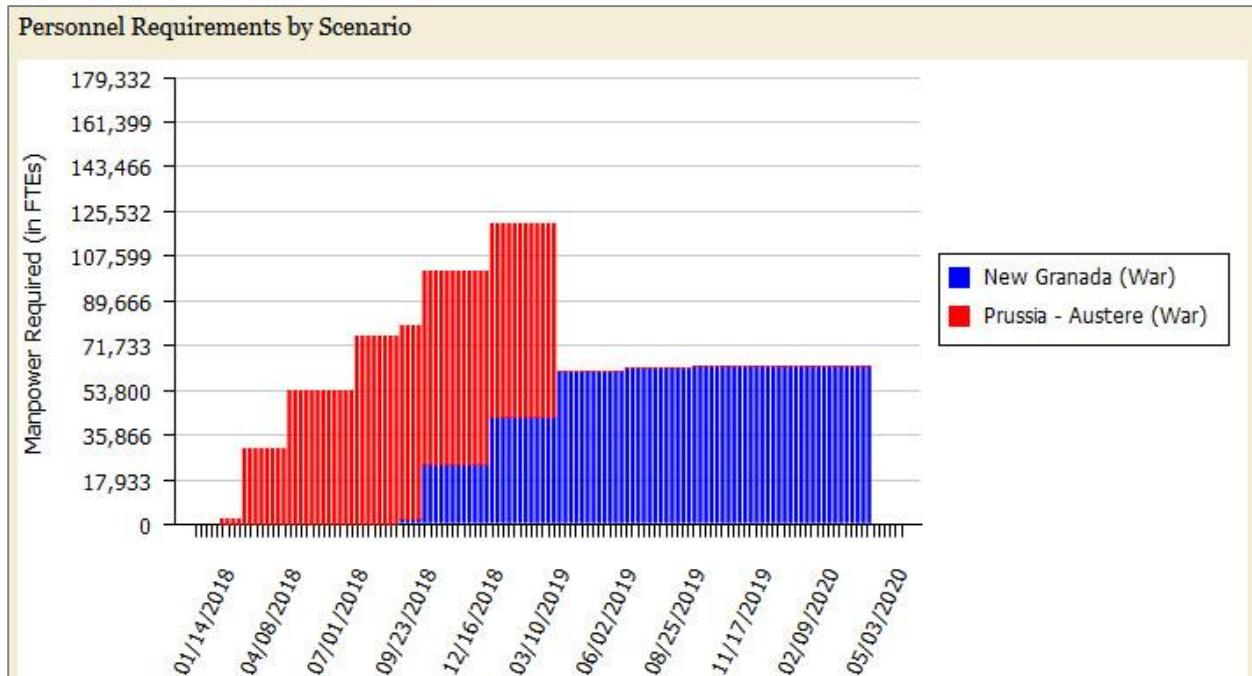
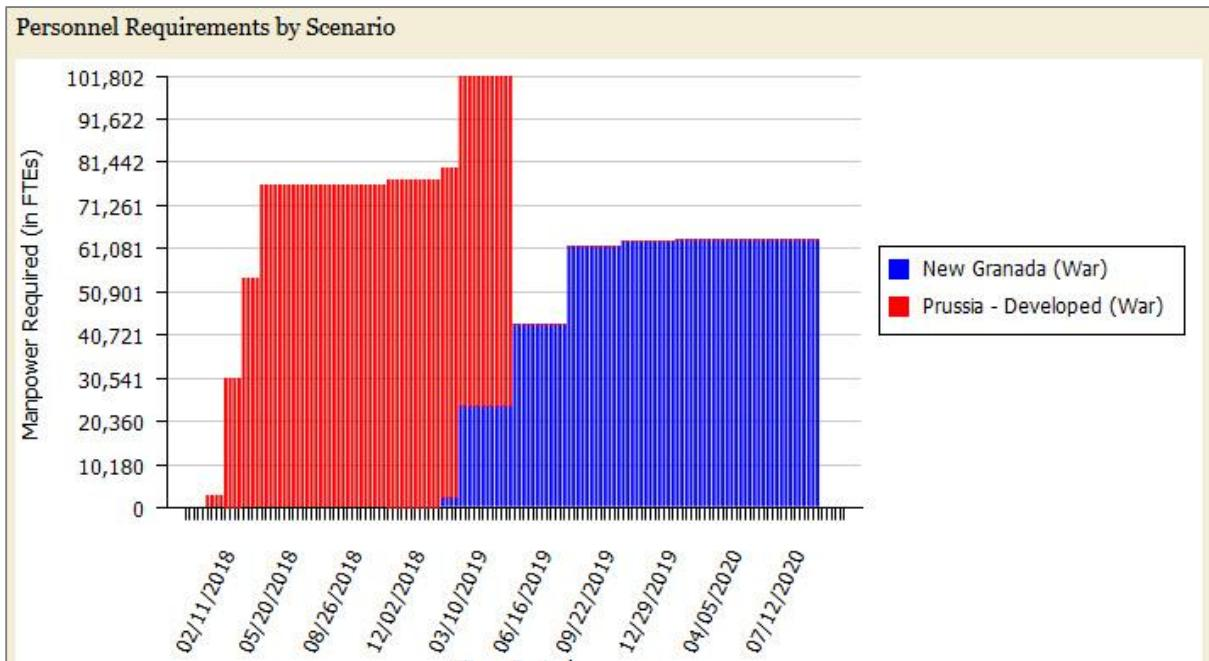

Figure 3. 28 weeks overlap analysis: Personnel Requirements by Scenario.
Figure 4. Prussia phase 3 of 28 weeks analysis: Personnel Requirements by Scenario
The prior runs have assumed that the U.S. will be able to use existing bases in the Prussia region. What if that is not the case? This analysis assumes that the U.S. will not have access to existing bases in the region. New bases will have to be created, so the “Prussia – Austere” scenario is used. Phases 1 and 2 for “Prussia – Austere” are longer to accommodate the creation of bases. This causes “Prussia –Austere” scenario to have a longer duration than “Prussia – Developed,” which causes the longer 28 week overlap, (August 2018 - February 2019) with New Granada (Figure 3).
11. Personnel Requirements by Scenario graph should look like Figure 3. It can take a while to load.
Go to the *Analysis Inputs* tab, and then go to the *Manpower Availability & Phase Durations* page. Click “Graph: Total Personnel Requirements by Scenario” at the top of the page. Compare this graph (Figure 3) to the one from the 16 weeks overlap (Figure 2). “Prussia – Austere” requires personnel for 12 more weeks than “Prussia – Developed” and overlaps with New Granada for 12 extra weeks. Instead of 16 weeks of overlap, the two mission scenarios now have 28 weeks of resource competition (the 16 weeks overlap peaks at ~100,000, and the 28 weeks overlap peaks at ~120,000). With the cap on military availability - even after exhausting the available pool of Military – Reserve - more contractors will need to be hired, and they will need to be hired for a longer period. Since TCN and LN cannot be used in Prussia, U.S. contractors must be hired. Since U.S. contractors are the most expensive personnel group, this is causing an exponential cost increase.
12. Personnel Requirements by Scenario graph should look like Figure 4. Personnel Requirements by Scenario graph should look like Figure 3. It can take a while to load.